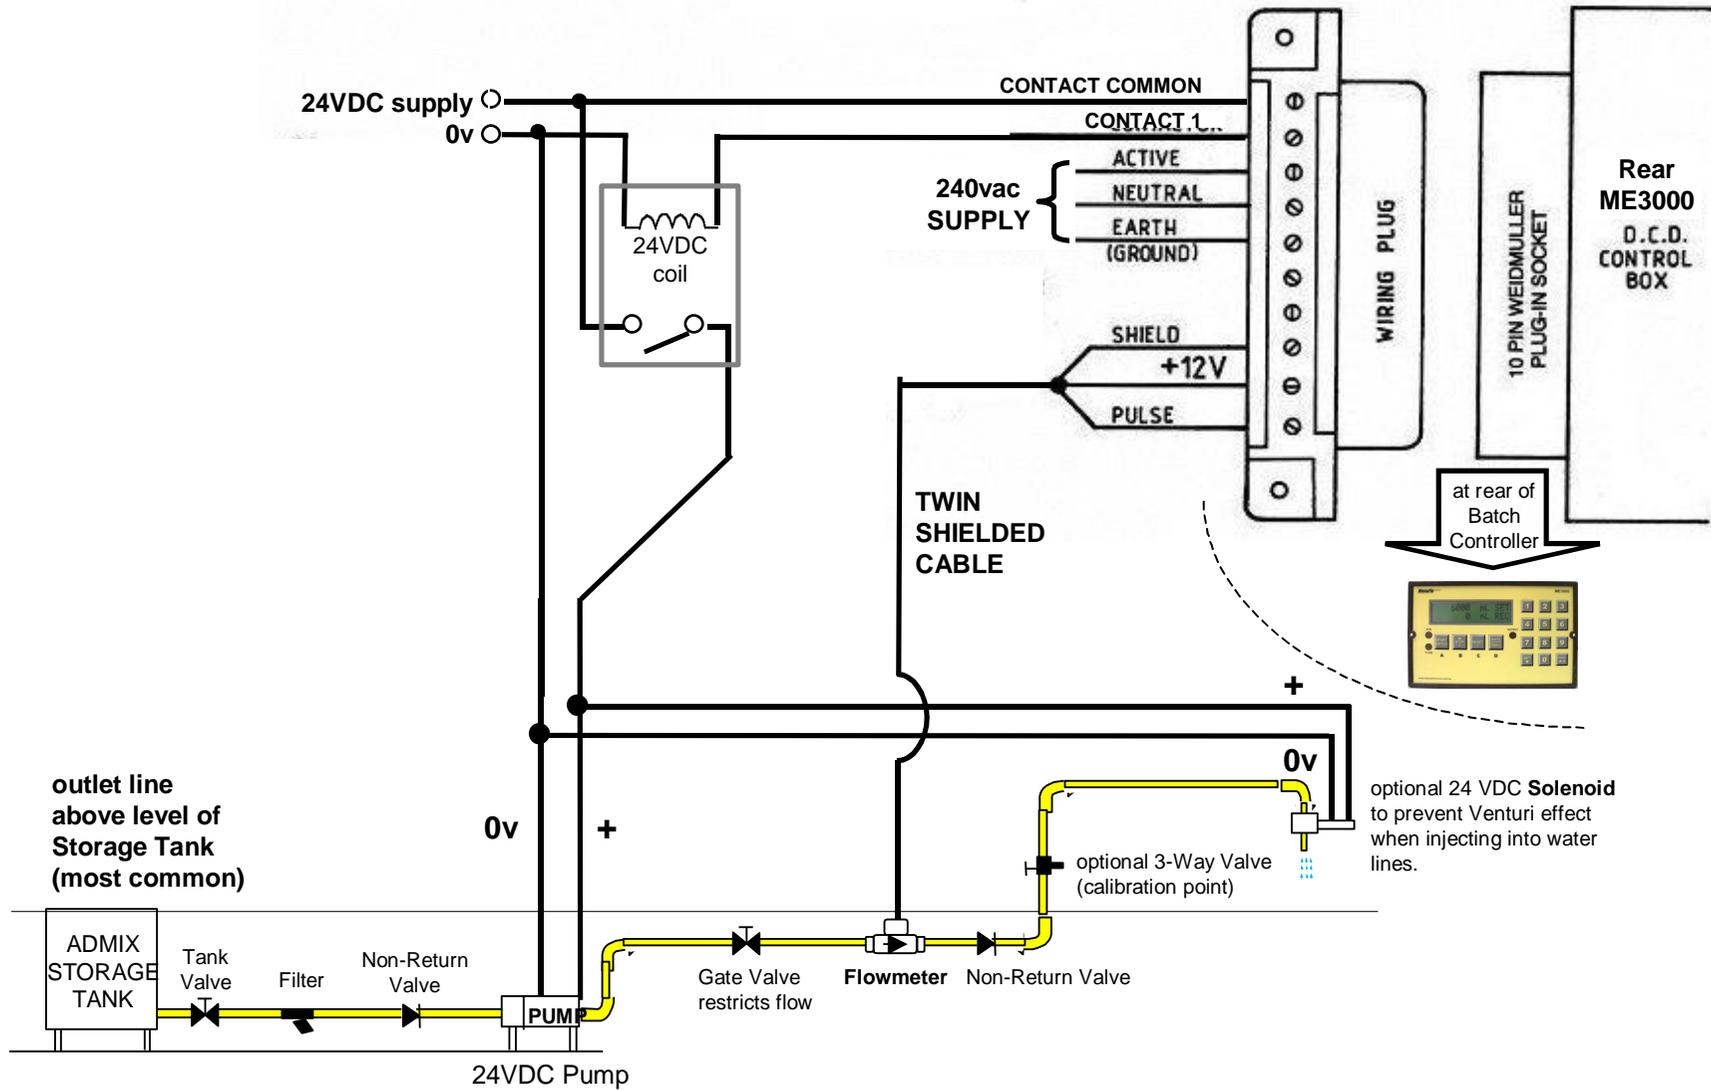

Figure 9. Wiring for DC Open Contact
- the wiring diagram of Figure 9 on page 20 must be followed for an Open Contact connection.